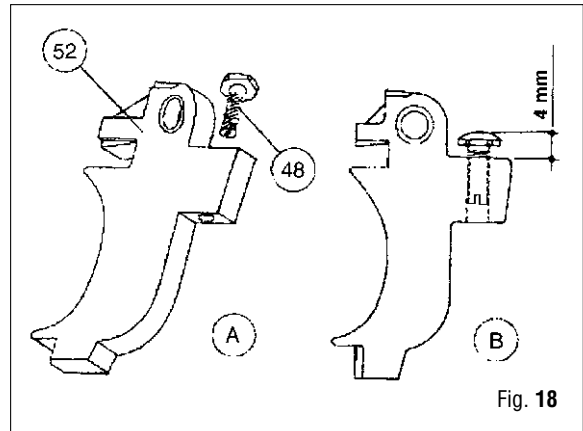

Fig. 18
33. Insert the rounded end of the connecting plunger (45) into the bushing (47) using a special tool A-13 (Ø 1.5 mm) or needle nose pliers.
34. Place o-ring (60) into groove of safety bar (59).
36. Align the safety bar retainer (58) and press it into the safety bar until the latch engages.
37. Install trigger adjustment screw (48) into trigger body (52) (Fig. 18-A). With a 6 mm wrench, tighten trigger adjustment screw (48) into trigger body (52), until it protrudes approximately 4 mm. (Fig. 18-B).
38. Align the hole in the trigger with the holes in the handle (41) and install trigger pin (53).
39. Position the grip (61) on the handle (41) and install grip pin (62), from the power adjustment lever side.
42. Open the jaws and remove barrel (26).
43. With a rotating motion, install tank (25) using jaws (A-3) if necessary.
44. Fill the barrel (26) with oil according to the quantities shown in the table below.
3. Remove washer (14) and line retainer (12) from the shaft (Fig. 18).